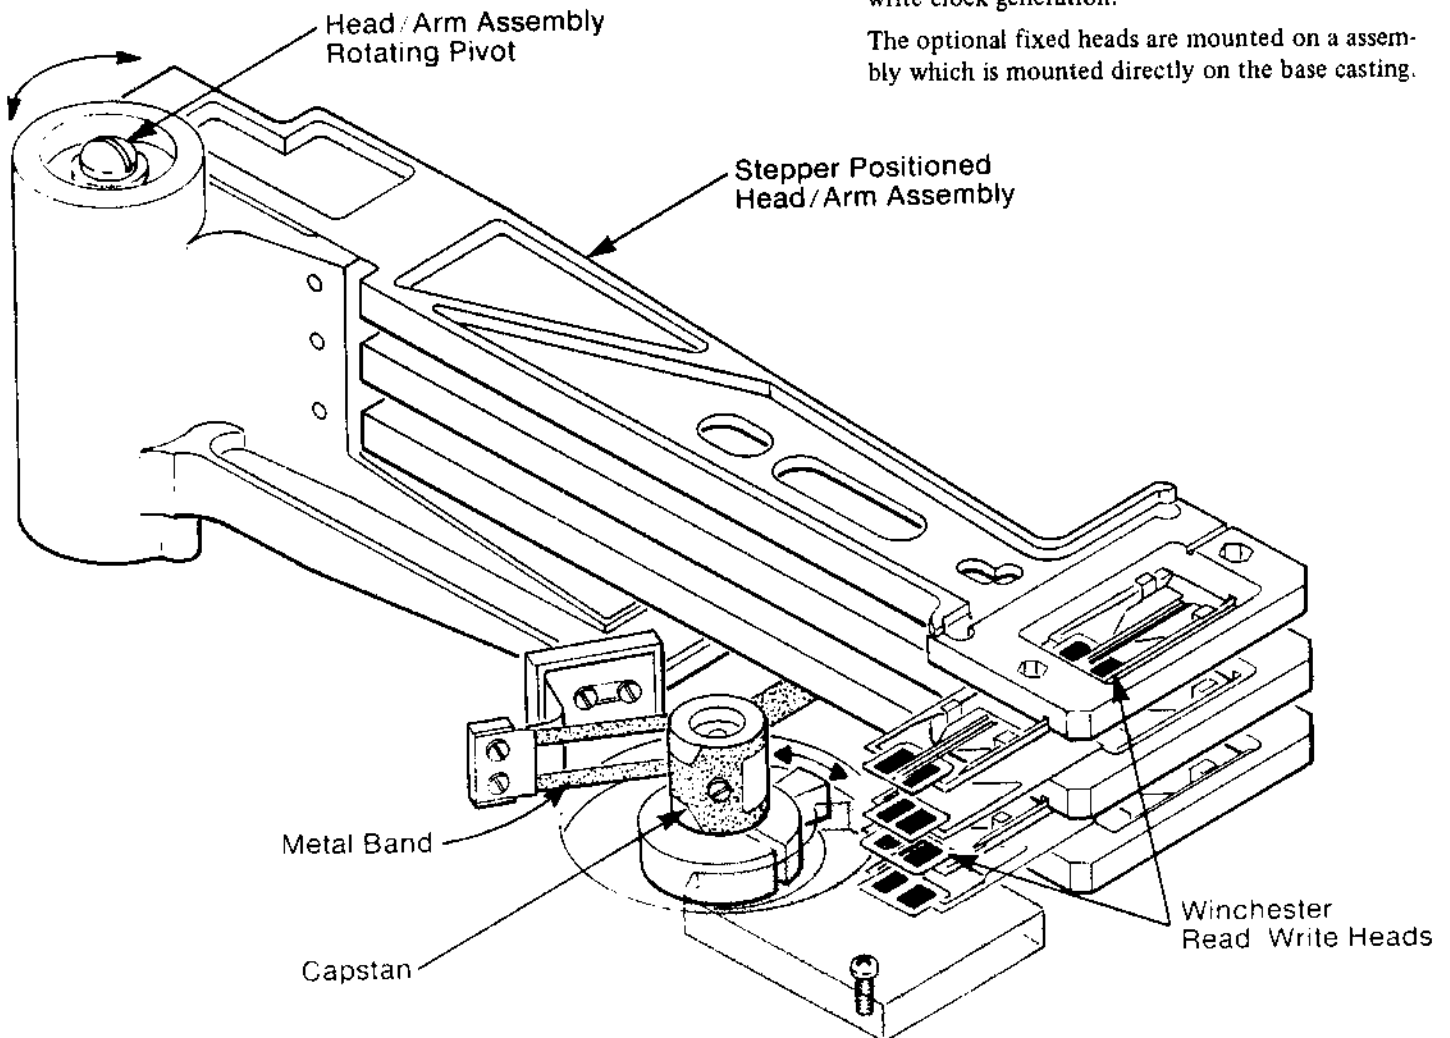

Figure 3. Read/Write Heads
2.4 Positioning Mechanism (Figure 3)